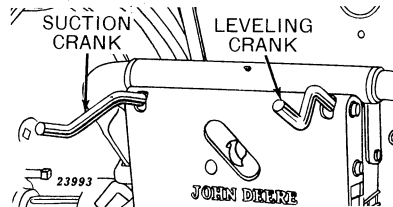

Figure 9—Adjusting Cranks
1. Level carrier with leveling crank. Turn suction crank counter-clockwise until couplers are tilted down (Figure 9).